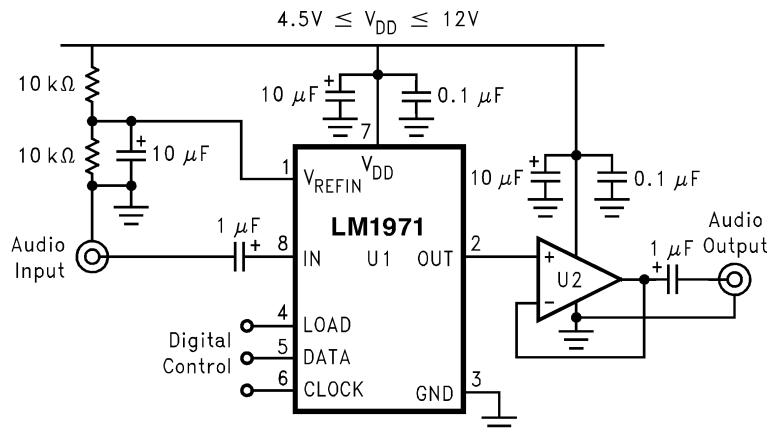
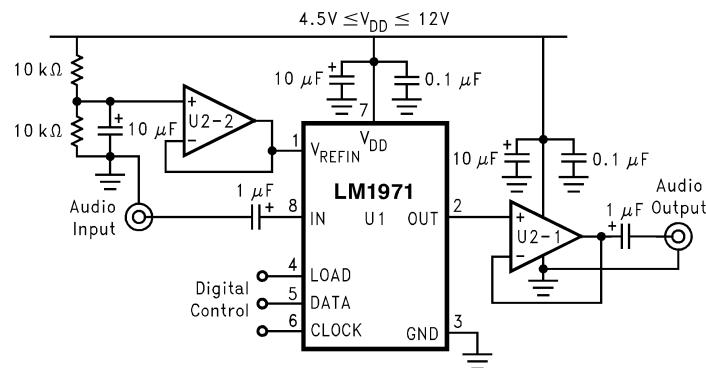

Figure 1. Typical Audio Attenuator Application Circuit
Figure 19. Higher Performance Active Half-Supply Buffering
V_{REFIN} (1): The V_{REFIN} pin provides the reference for the analog input signal. This pin should be biased at half of the supply voltage, V_{DD}, as shown in Figure 1 and Figure 19.
A more stable half-supply node can be obtained by actively buffering the resistor divider network with a voltage follower as shown in Figure 19. Supply fluctuations are then isolated by the high input impedance/low output impedance mismatch associated with effective filtering. Since the LM1971 is a single channel device, using a dual JFET input op amp is optimum for both output buffering and half-supply biasing.